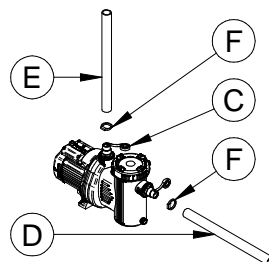

Fig. 20
3. Apply some turns of the supplied teflon around the rubber holders (Fig. 20, # C; *hydraulic parts*) to ensure the pipe is sealed (*hydraulic parts*) onto the rubber holder.